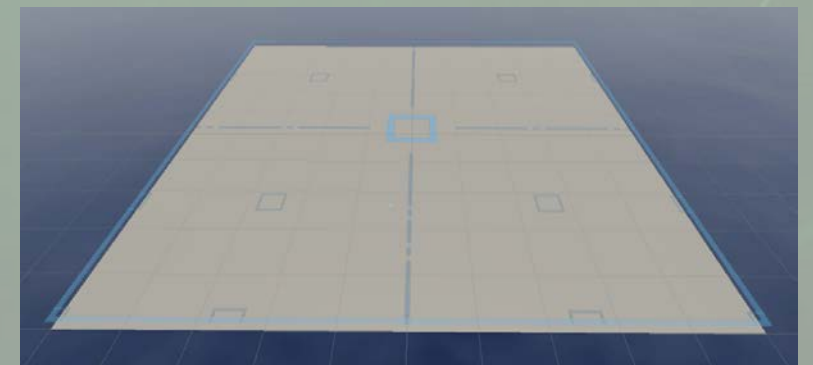

Figure 2: Base plane and teleporting area
- The solution is to use teleporting to allow instant change of location within the plane (Fig 2.)